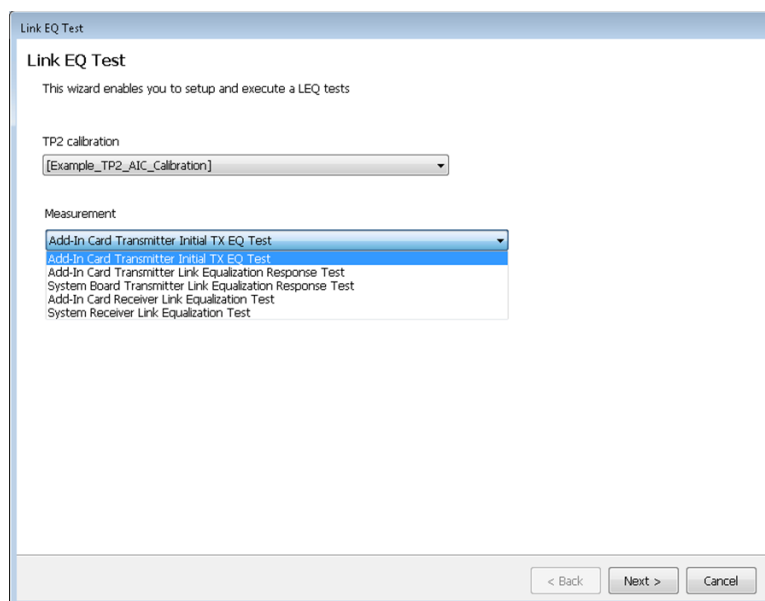

Figure-33: Link EQ test wizard
5. Upon clicking on the 'Link EQ Test' button, the Link EQ Test wizard is displayed as shown in Figure-33
6. Upon clicking on the 'Link EQ Test' button, the Link EQ Test wizard is displayed as shown in Figure-33